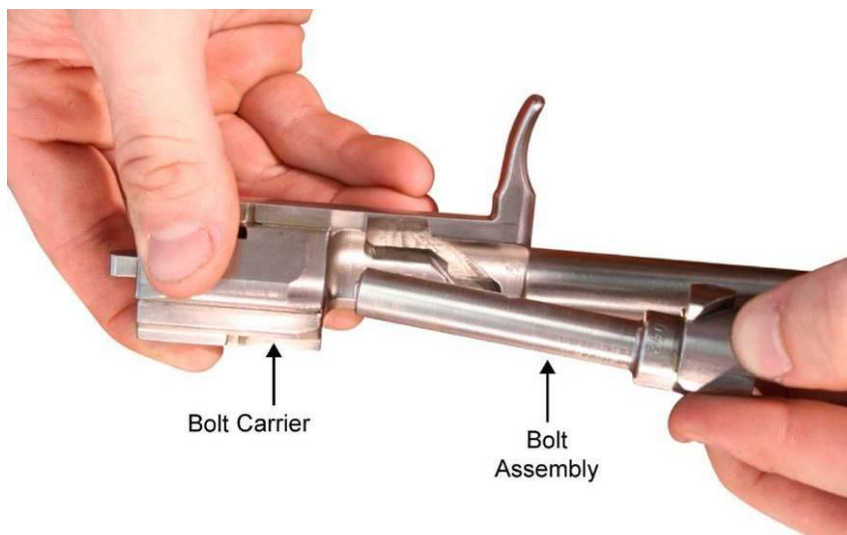

Figure 4. Pushing the Bolt Assembly into the Bolt Carrier.
1. Push the bolt assembly into the bolt carrier. Refer to Figure 4.